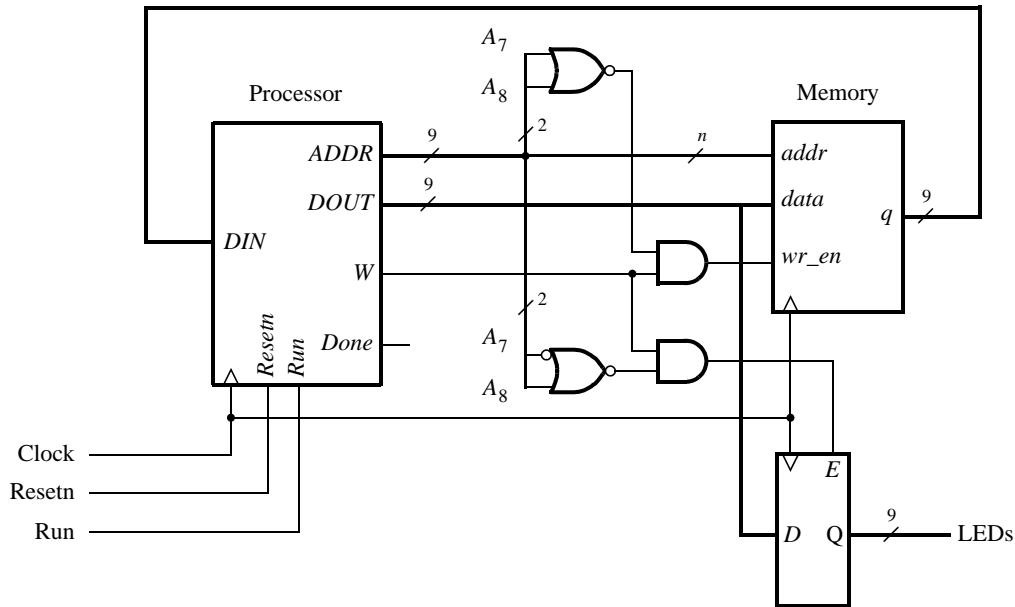

Figure 8. Connecting the enhanced processor to a memory and output register.
Figure 8 illustrates how the enhanced processor is connected to memory and other devices. The memory unit in the figure supports both read and write operations and therefore has both address and data inputs, as well as a write enable input. The memory also has a clock input, because the address, data, and write enable inputs must be loaded into the memory on an active clock edge. This type of memory unit is usually called a *synchronous random access memory* (*synchronous RAM*). Figure 8 also includes a 9-bit register that can be used to store data from the processor; this register might be connected to a set of LEDs to allow display of data on the DE1 board. To allow the processor to select either the memory unit or register when performing a write operation, the circuit includes some logic gates that perform *address decoding*: if the upper address lines are $A_8A_7 = 00$, then the memory module will be written at the address given on the lower address lines. Figure 8 shows n lower address lines connected to the memory; for this exercise a memory with 128 words is probably sufficient, which implies that $n = 7$ and the memory address port is driven by $A_6 \dots A_0$. For addresses in which $A_8A_7 = 01$, the data
written by the processor is loaded into the register whose outputs are called *LEDs* in Figure 8.
2. Write VHDL code for the processor and test your circuit by using functional simulation: apply instructions to the *DIN* port and observe the internal processor signals as the instructions are executed. Pay careful attention to the timing of signals between your processor and external memory; account for the fact that the memory has registered input ports, as we discussed for Figure 8.
3. Create another Quartus II project that instantiates the processor, memory module, and register shown in Figure 8. Use the Quartus II MegaWizard Plug-In Manager tool to create the RAM: 1-PORT memory module. Follow the instructions provided by the wizard to create a memory that has one 9-bit wide read/write data port and is 128 words deep. Use a MIF file to store instructions in the memory that are to be executed by your processor.
Connect the *LEDs* register in Figure 8 to *LEDR₈₋₀* so that you can observe the output produced by the processor.
1. Create a Quartus II project for your circuit and write the VHDL code that includes the circuit from Figure 8 in addition to your *seg7_scroll* module.